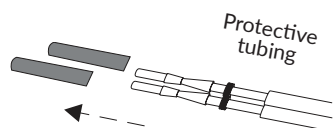

Figure 4-4
5. Once the harness has been routed into the vehicle, remove the protective cover from the pin. **See Figure 4-4.**